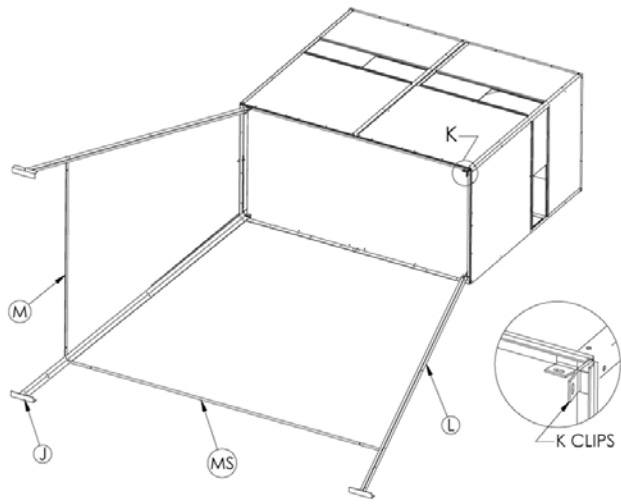

Figure 1
4. Attach the (L) Legs to (K) K-Clips using (M) & (N) Horizontal Bracing as necessary for support. (Fig. 1)